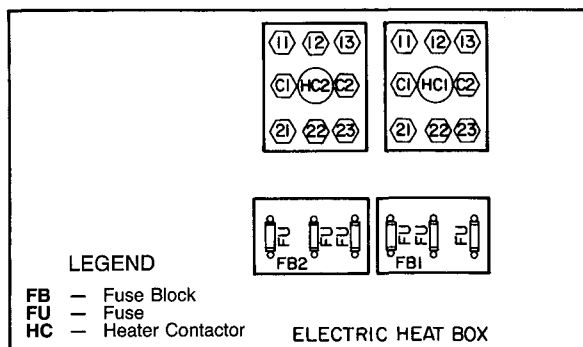

**Fig. 24 — Typical Electric Heat Control Box Component Arrangement**
**ELECTRIC HEAT CONTROL BOX** (Fig. 24)